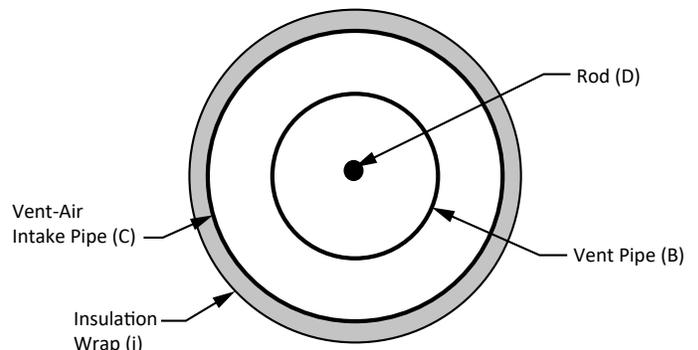
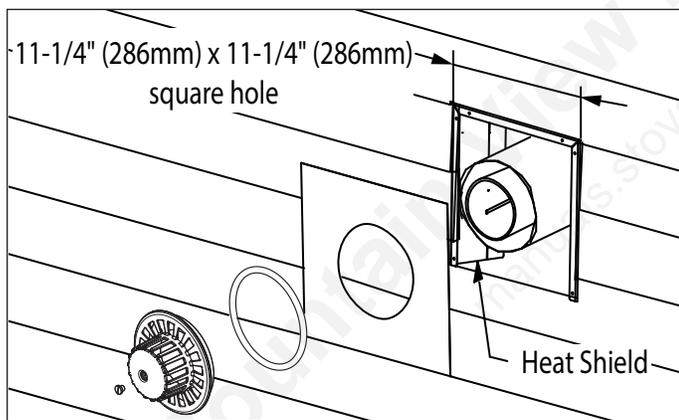

Figure 27
Figure 28
- (B) vent pipe
- (C) vent-air intake pipe
- (D) rod
- The hole at the outside of the wall must be a square of 11-1/4" (286 mm) x 11-1/4" (286 mm) (see figure 28).
- From the outside of the wall, screw the rod (D) slightly onto support located inside the appliance flue outlet.
- Wrap the vent-air intake pipe (C) with the provided insulation (i) (foil side out) and place the provided strip of tape (H) down the seam to secure it.
- Slide the smaller vent pipe (B) (from outside your house) through the hole in the wall and attach to the mounted heater inside your house. Be sure the vent pipe is snug and engaged to the heater. Then slide the larger Vent-Air Intake Pipe, with the insulation wrapped and taped to the outside of the pipe, through the same hole and over the smaller Vent Pipe (B) and attach to the heater.
NOTE: It is critical that the insulation wrap (i) be wrapped and secured with the tape on the outside of the larger Vent-Air Intake Pipe (C). The insulation is NOT to be wrapped in between Vent Pipe (B) and Vent-Air Intake Pipe (C) (see figure 27).